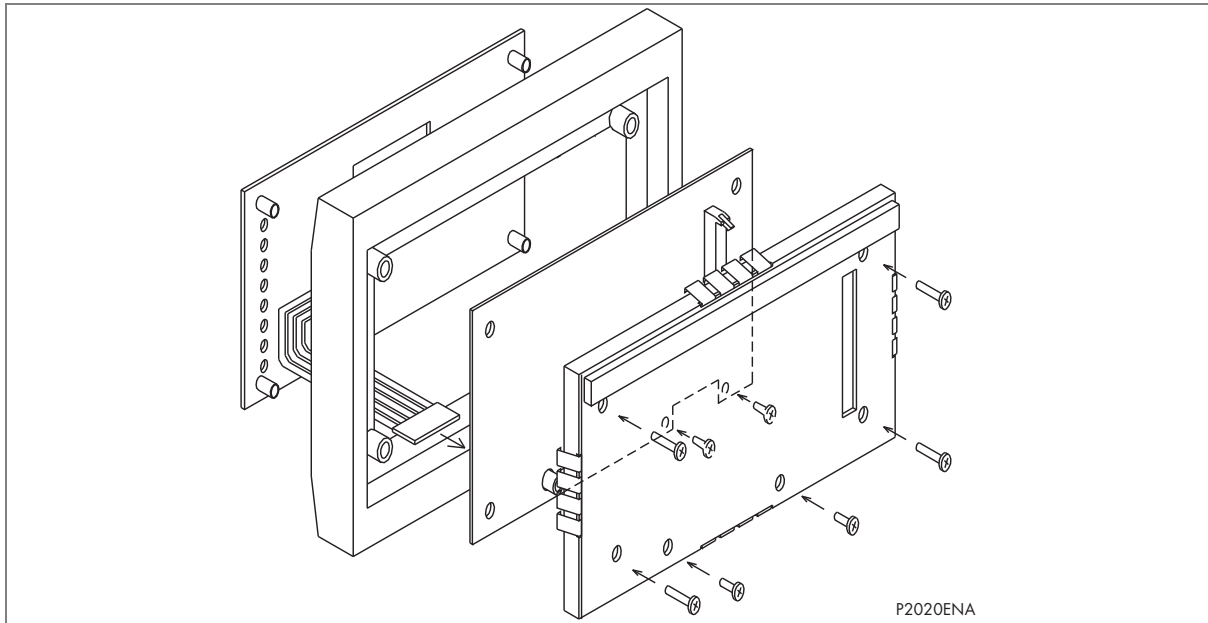

Figure 2: Front panel assembly
2. Place the front panel with the user interface face down and remove the six screws from the metallic screen, as shown in Figure 2. Remove the metal plate.